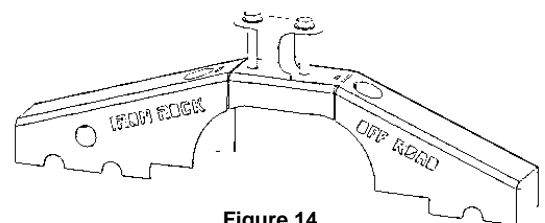

Figure 14
56. Weld upper truss bracket to truss (see figure 14). Be sure holes are aligned and leave 2 5/8" plus wiggle room for mounting control arms.
57. Assemble UCA mounting bolts and nuts from hardware kit 150 onto truss (see figure 14 & 15). Snug bolts and weld nuts to truss.